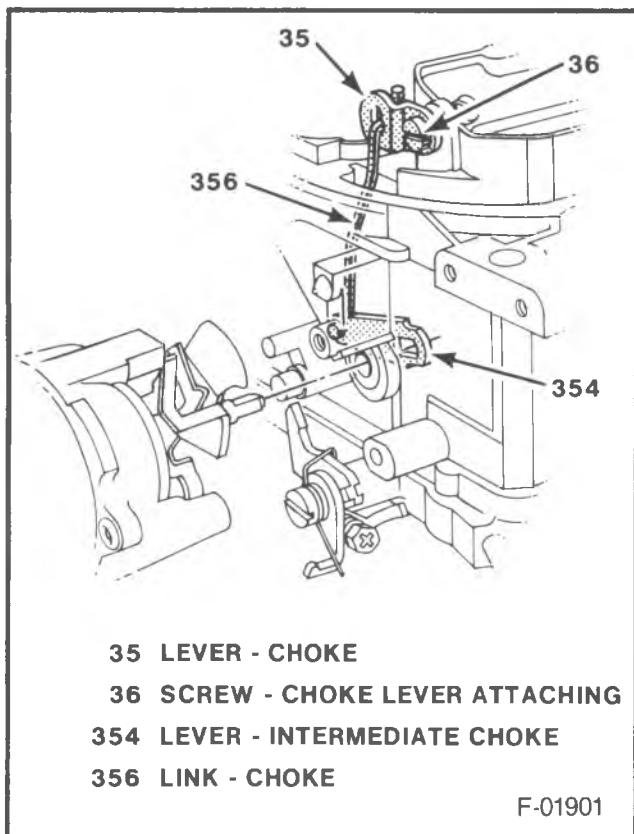

Figure 14 -- Choke Lever and Link
- ➡➡ Remove or Disconnect (Figure 14)
- Choke lever attaching screw (36).
- Choke lever (35).
- Choke link (356).